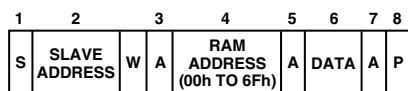

Figure 4b. Single Byte Write To RAM
1. Write a single byte of data to RAM. In this case, the command byte is the RAM address from 00h to 6Fh and the (only) data byte is the actual data. This is illustrated in Figure 4b.